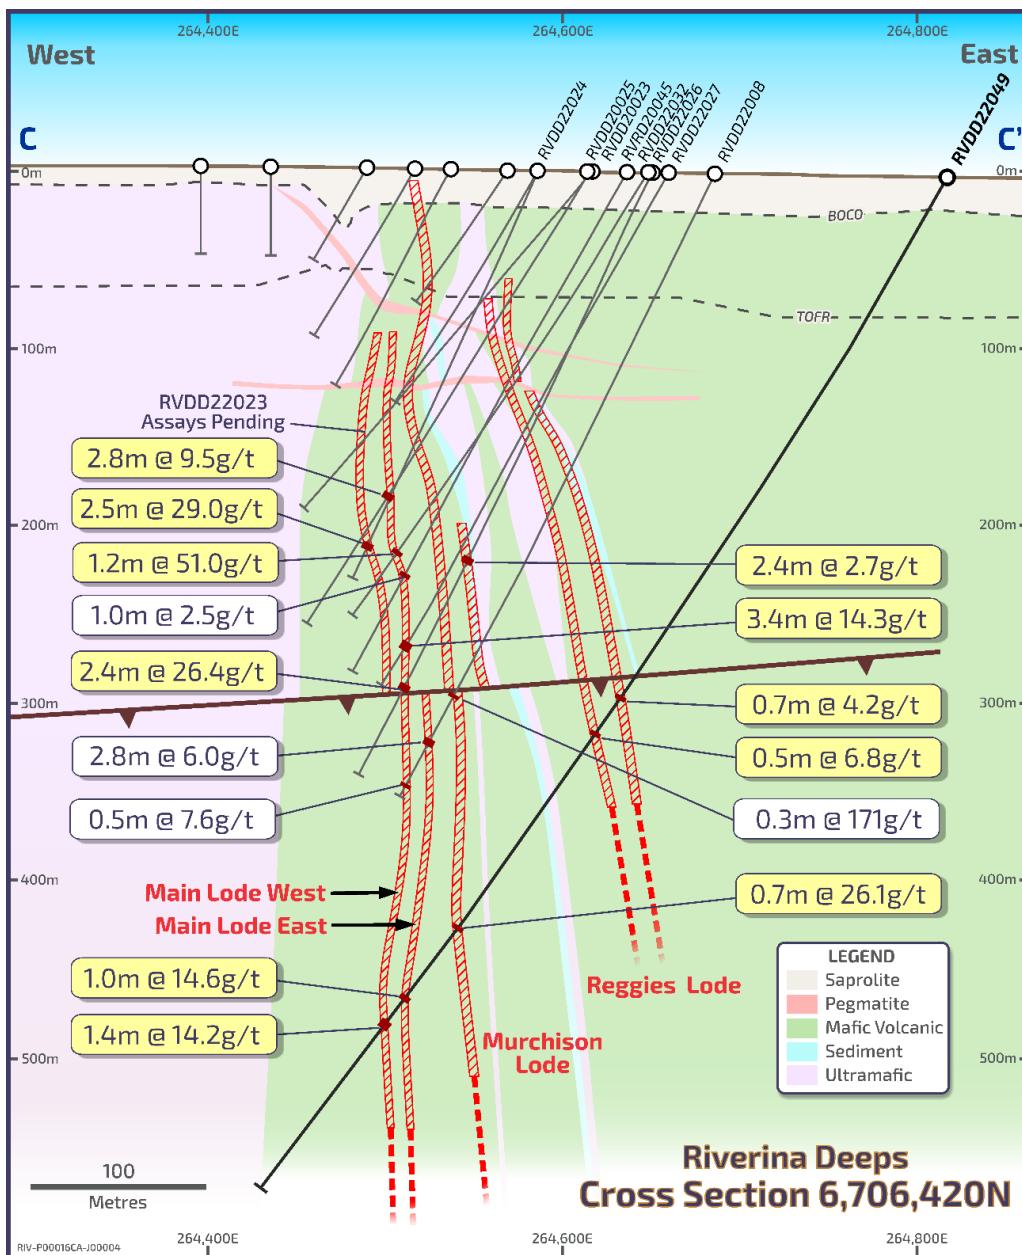

Figure 1 Cross Section looking north
- New significant intercepts (see Figure 1) include: